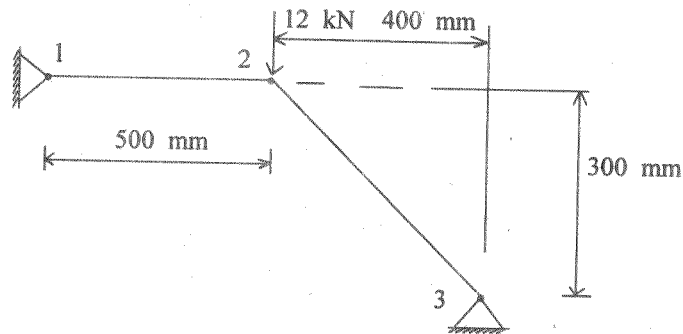

Fig. 2
12. Determine the displacements of node 2 and the stress in the element 2 for the two-bar truss shown in Fig. 2. Area of cross-section of each element is $A = 200 \text{ mm}^2$, $E = 70 \text{ GPa}$.